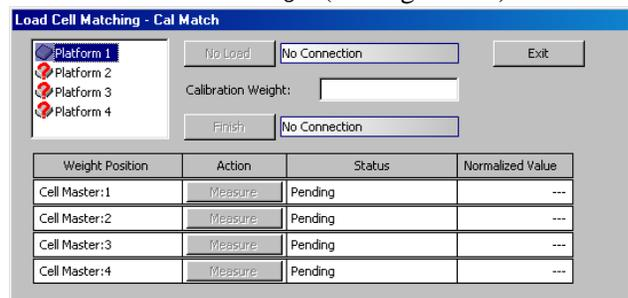

Figure 5-3. Cal-Match Load Cell Matching Display
1. From the Interactive menu, select *Cal-Match Load Cell Matching...* (see Figure 5-3).